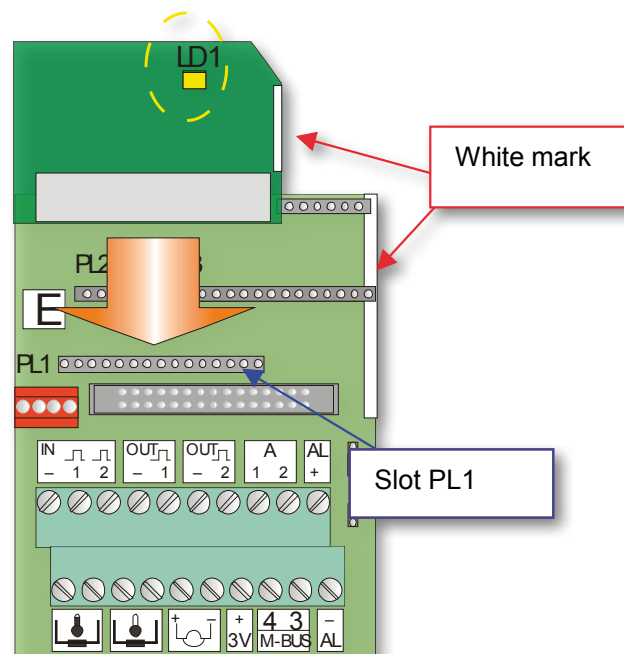

Fig. 1, Installation of option board FCM2 in calculator F22
The LED "LD1" on the board, cf. Fig. 1 below, illuminates when the M-Bus loop is powered and properly connected.
1. Make sure the white mark on the option board is facing the white mark on the connection board of the meter, cf. Fig. 1 below. The component side of the option board should face down towards the screw terminals.